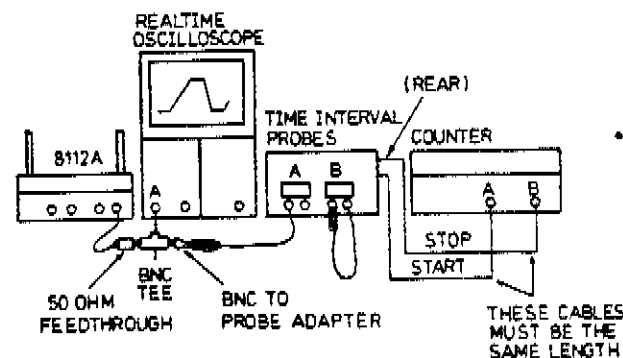

Fig. 5-5. Slope test set-up
2. Use Slope test set-up (Fig. 5-5).